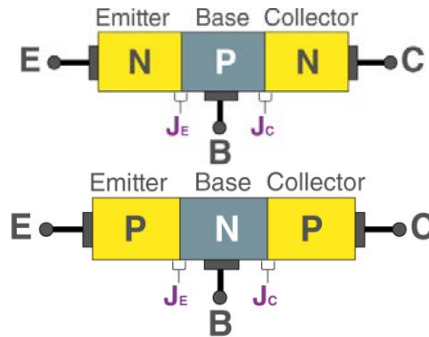

Figure 5.1: Construction of NPN and PNP transistor
A BJT has two junctions J_E and J_C – Emitter-Base (EB) Junction and Collector-Base (CB) Junction respectively which is shown in the *figure 5.1*. The junction formed between the emitter and the base is called EB junction and the junction formed between the collector and the base is called CB junction.